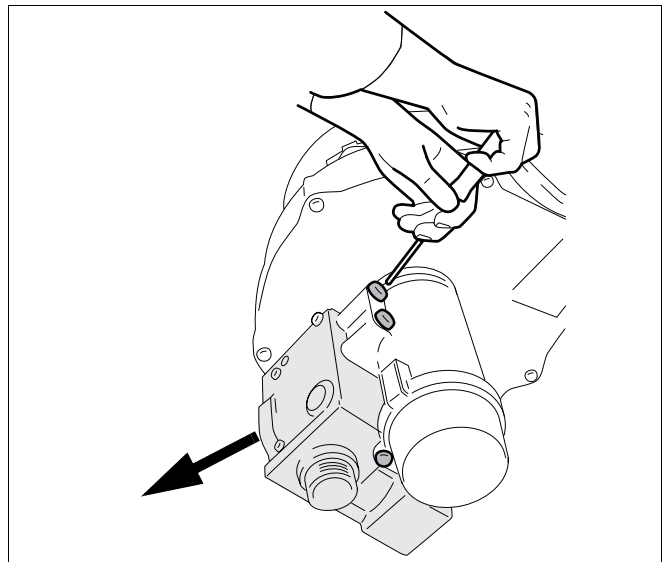

fig. 75 Remove gas valve
- Remove the gas valve (→ fig. 75).